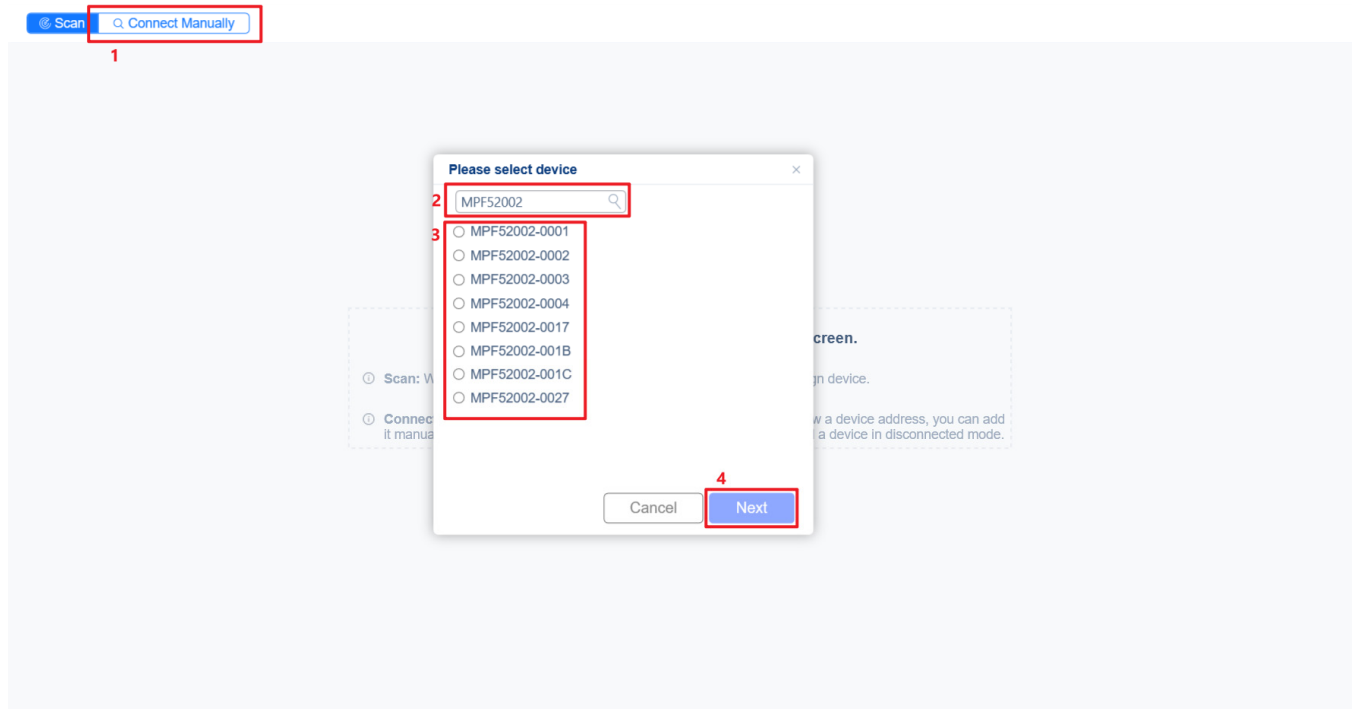

Figure 5: Start the MPF52002 GUI
3. Open the VBP4.0 GUI, create a new project, and add the MPF52002-001C (see Figure 5).